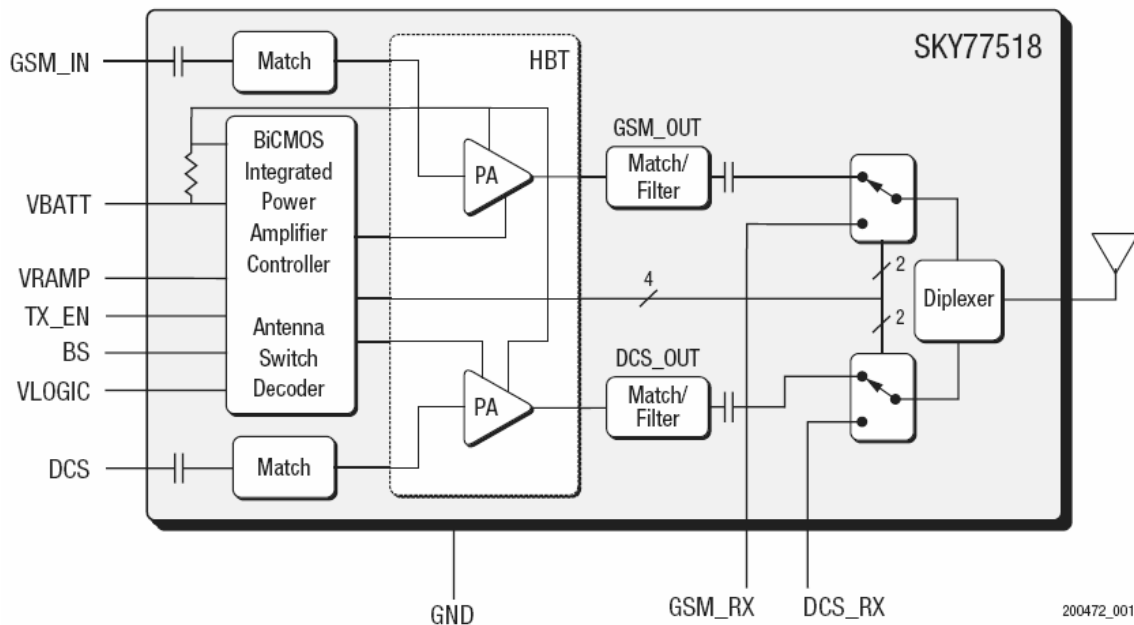

Figure. 3-2 SKY77518 FUNCTIONAL BLOCK DIAGRAM
Band Selection and control of transmit and receive modes are performed using two external control pads. Refer to the functional block diagram in Figure 3-2. The Band select pad (BS) selects between GSM and DCS modes of operation. The transmit enable (TX_EN) pad controls receive or transmit mode of the respective RF switch (TX = logic 1). Proper timing between transmit enable (TX_EN) and Analog Power Control (VRAMP) allows for high isolation between the antenna and TX-VCO while the VCO is being tuned prior to the transmit burst.